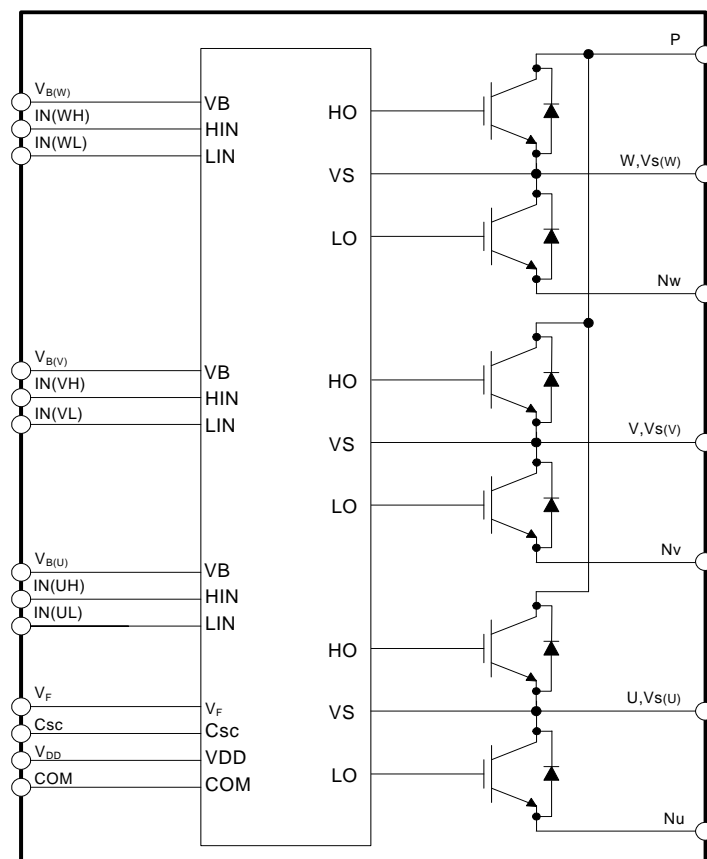

Figure 3. Internal Block Diagram
- 600 V - 15 A IGBT inverter for three phase DC / AC power conversion (Please refer to Figure 3)